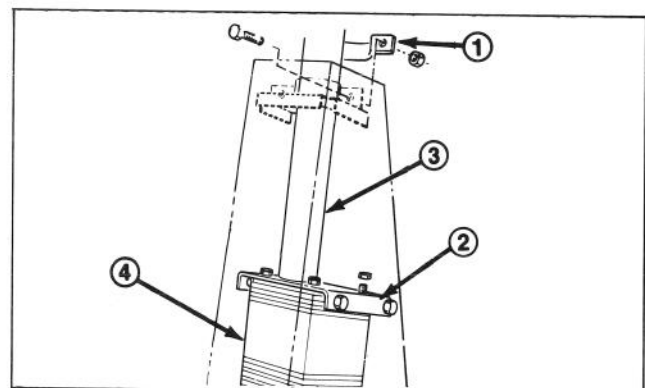

Figure 1
1. Loosen clamp half mounting screws securing steering post to tower (Fig. 1).
2. Slide steering post upward until valve mounting studs are positioned into mounting bracket (Fig. 1).
3. Secure valve to bracket with (4) locknuts (5/16 - 24).